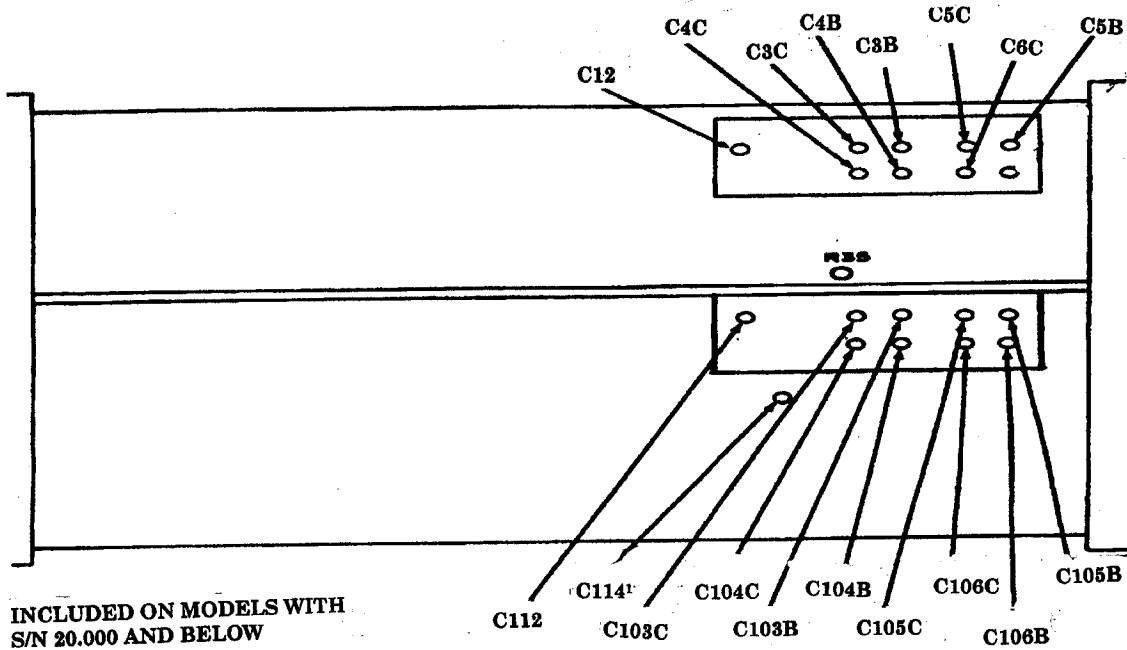
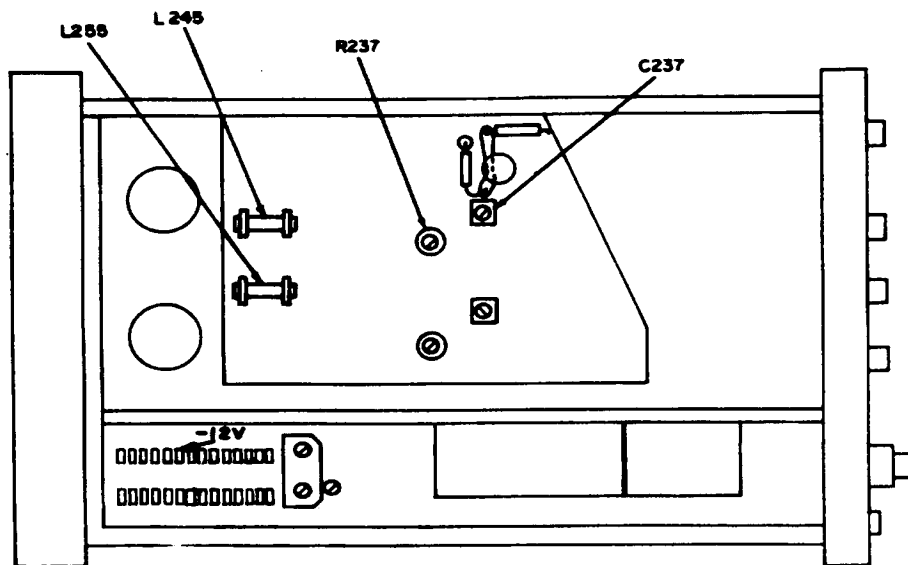

Figure 1. Test instrument - bottom view.
Figure 3. Test instrument - left view.
If standardizer cannot be properly adjusted, adjust C12 (fig. 1) to midrange and readjust standardizer for optimum waveform (R).
(7) Repeat technique of (4) and (5) above for **CH 1 VOLTS/DIV** switch settings listed in table 5. If display does not have square corners and flat tops, perform corresponding adjustments.
- (1) Adjust R237, C237, L245, and L255 (fig. 3) in order, for optimum square wave.
- (2) Adjust C114 (fig. 1) (for S/N below 20,000) for optimum square wave. Adjust R237, C237, L245, and L255 (fig. 3) (for S/N 20,000 and above). Compromise the adjustments for optimum square wave (R).
(2) Connect multimeter to -12V test point (fig. 3) and chassis ground, using lead. If multimeter does not indicate between -11.88 and -12.12 V, perform **b** below.